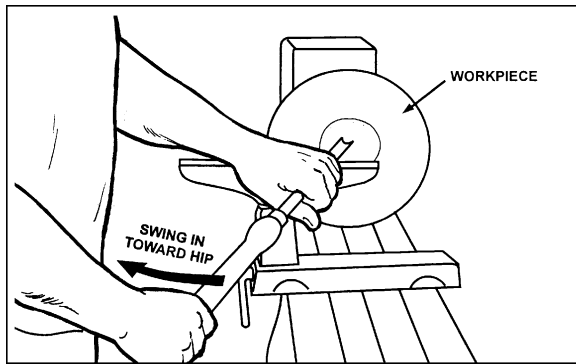

Figure 38
5. Place 1/2" bowl gouge on tool support at center of the workpiece with the flute facing top of bowl. The tool handle should be level and pointed toward the four o'clock position, as shown in Figure 38.
- Use the left hand to control cutting edge of gouge, while right hand swings tool handle around toward your body (Figure 38). The flute should start out facing top of workpiece, and rotate upward as it moves deeper into the bowl to maintain a clean even curve. As the tool goes deeper into the bowl, progressively work out toward the rim. It may be necessary to turn the tool support into the piece as you get deeper into the bowl.